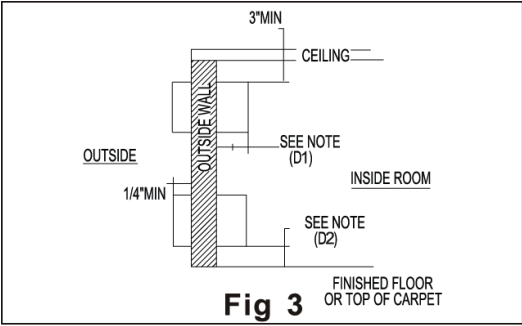
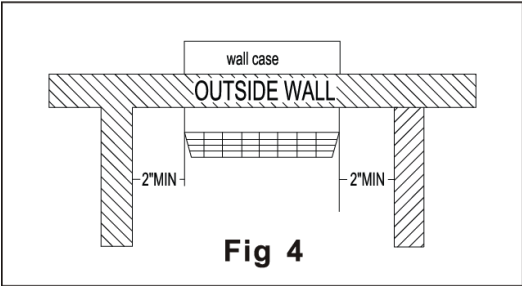

Fig 3
Fig 4
- E. There should be sufficient space margins around the unit to facilitate maintenance and repairs (refer to Fig. 3 and Fig. 4)